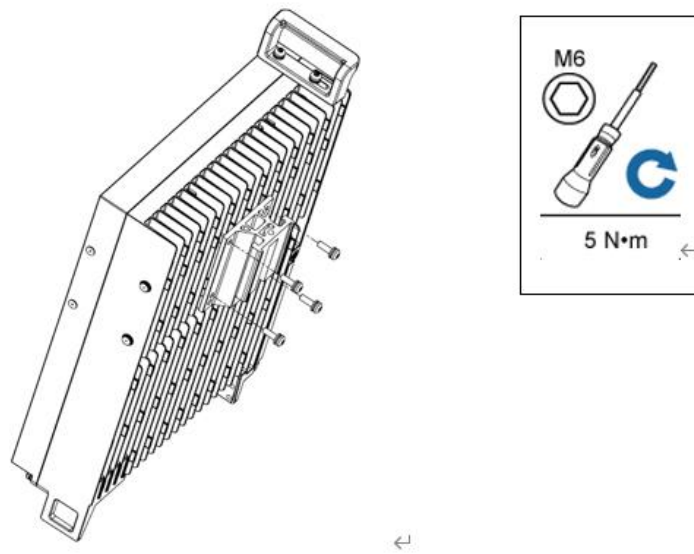

Figure 3-20 Installing the main bracket onto the rear side of ORRU
Step 3: Install the main bracket onto the rear side of ORRU and tighten the M6 screws as shown in Figure 3-20.